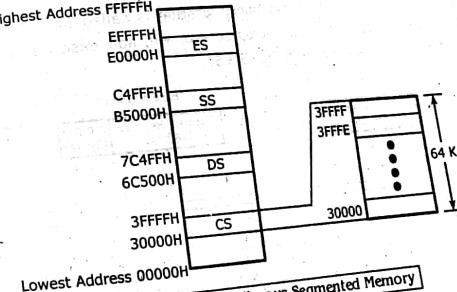

Fig. 5.3.7 Non-Contiguous Segmented Memory
(1) Segment can be contiguous i.e., data segment may start at 40000H, extra segment at 50000H, stack segment at 60000H and code segment at 70000H. Thus, all the segments are positioned in the memory in sequence.
(2) Segments can be non-contiguous i.e., data segment may start at 6C500H, extra segment at E0000H, stack segment at B5000H and code segment at 30000H as shown in Fig. 5.3.7. Thus, all the segments mentioned are not contiguous in memory.